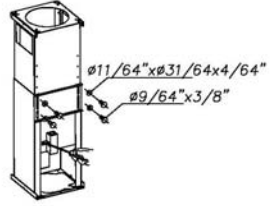

Fig. 3
- Adjust the length of the telescopic structure and attach the two pieces with 8 screws and washers. Bear in mind that the minimum distance from working surface to the base of the hood should not be less than 25" (Fig. 3).